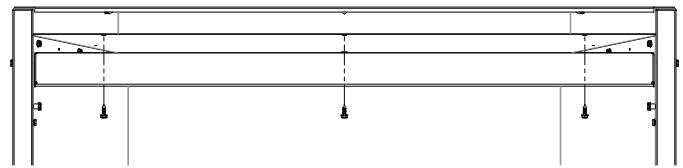

Figure 12. Install Canopy
2. Align canopy with the holes in the top frame assembly. Figure 12.
3. Install the three (3) screws (in owner's manual packaging) which attach the canopy to the top frame assembly. Figure 12.